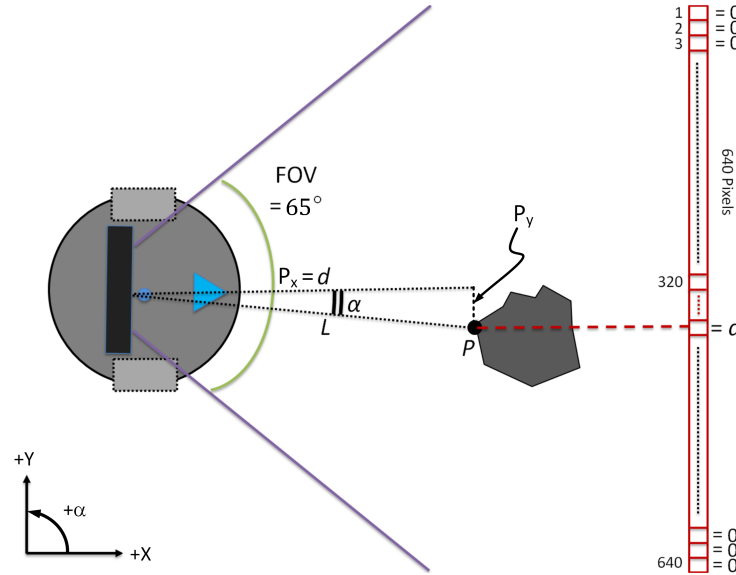

Figure 1.1: Depth data received from Intel RealSense sensor mounted on the Quanser QBot 3 Mobile Platform.
Depth data received from the Intel RealSense sensor in QUARC is represented as a 480×640 depth image. For simplicity, we will only use one row of the depth image data for 2D mapping (each row includes 640 pixels) as illustrated in Figure 1.1.
The value of each pixel represents the distance (in millimeters) from the camera to the object, and should be mapped to the corresponding (x, y) point in the world coordinate frame. For example, assume we want to map the point P , shown in Figure 1.1, represented by the 400^{th} pixel of the centre row to the world coordinate frame. The value of this pixel received from the Intel RealSense sensor is d , which is the distance of the point P to the camera plane. Therefore $P_x = d$ (in millimeters). To calculate P_y the angle α is required as $P_y = L \sin(\alpha) = d \tan(\alpha)$.
The angle α can be calculated based on the distance from the desired point to the centre of the row (in pixels), and the horizontal FOV of the Intel RealSense sensor. In the example shown in Figure 1.1, α can be calculated as follows:
Figure 1.1: Example of the particle filtering algorithm used for localization of the QBot 3. the green dots represent the initial values for the particles, the red dots show the particles updated in real-time, and the black dot shows odometric data localization
Figure 1.1 shows an example of a particle filtering algorithm for localization of the QBot 3. Here the green dots represent the initial particles, and the red dots show the particles after the robot moves for a few seconds. The black dot is the location of the data based on pure encoder measurements. It is clear that the particles are converging to the actual location of the robot within the map.
Make sure the robot's surroundings match the map you will be using. Put the QBot 3 in an initial location in the space, making sure the axes of the QBot 3 match of those of the map you have loaded as shown in Figure 1.1. Then go through the following steps.
2. Make sure the QBot 3 is facing towards the x axis of the environment map as shown in Figure 1.1. The robot can be anywhere within your mapped region, but make sure it is no closer to any objects than 0.5 m so that you get valid non-zero data from the Intel RealSense sensor. To better understand this concept, try placing the robot about 0.5 m away from the origin of the map (the initial location of the QBot 3 when you created the map). In this case the odometric data will not represent the exact location of the QBot 3 (odometric data is always reset to zero when you start the robot, which is the origin of the map).